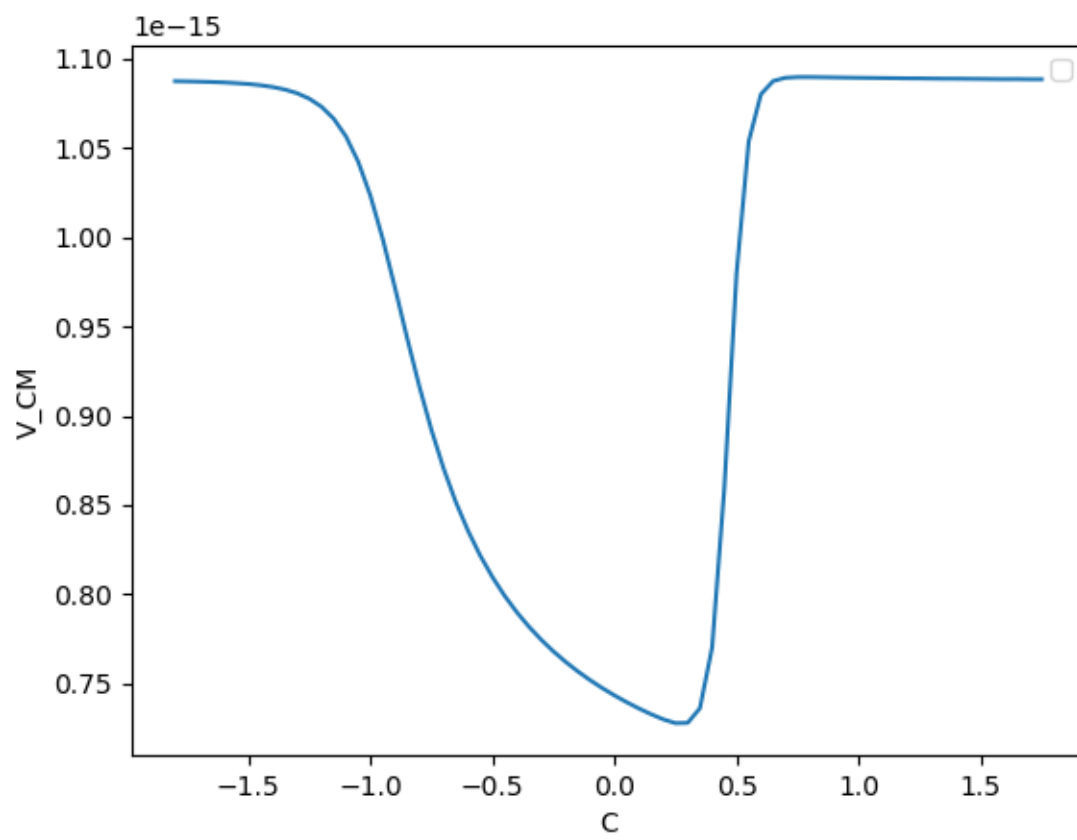

Figure 7: Short Channel, $f=10\text{MHz}$
- Please refer Figure 7 for the plot.